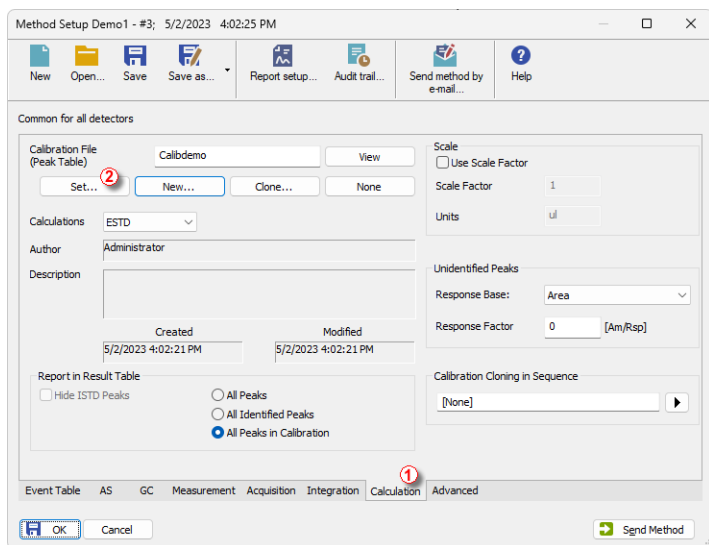

Fig. 14: Method Setup - the Calculation tab
- Return to the *Clarity Lite* window and use the *Method - Calculation...* command to open the *Method Setup* dialog directly on the *Calculation* tab  as shown on **Fig. 14** on pg. 21. Alternatively, open the Method Setup by clicking on the icon  and then move to the *Calculation* tab.